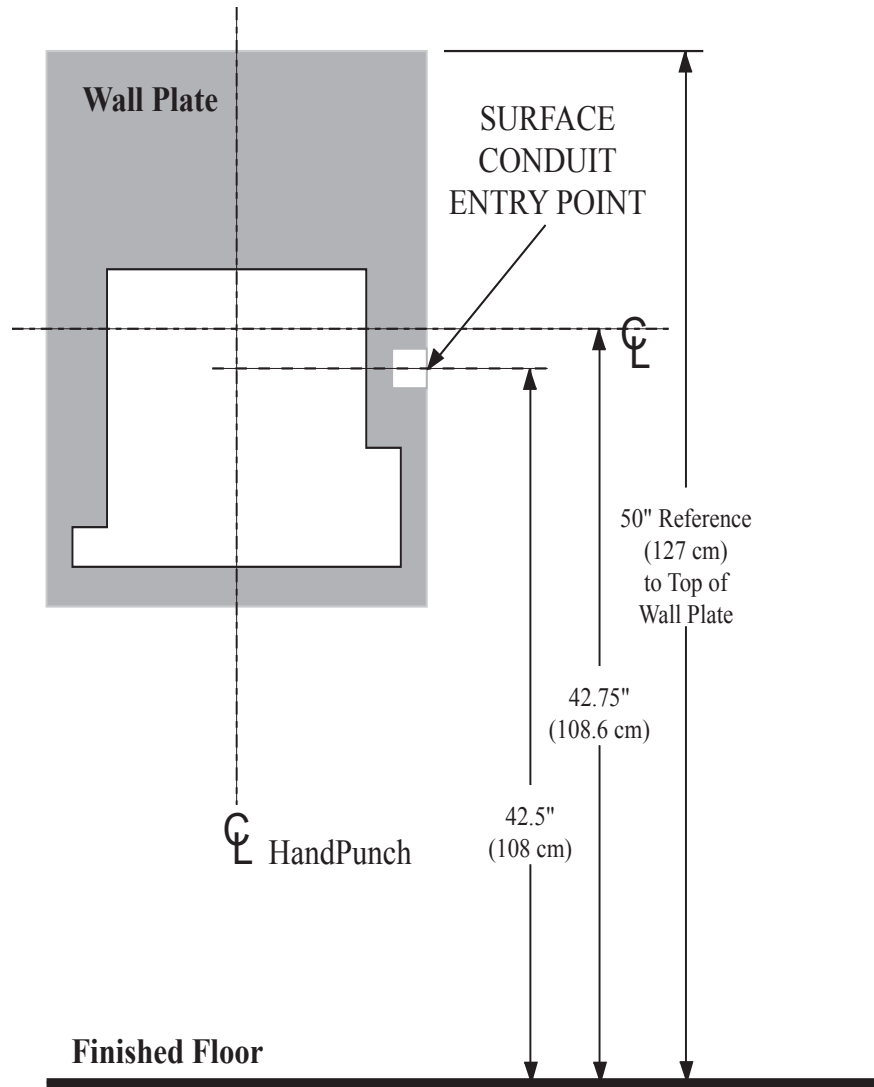

Figure 3-2: HandPunch Wire Routing Layout
Before you begin installation, check the site blueprints, riser diagrams, and specifications for important information about HandPunch location and for other systems that connect to the HandPunch. Look for any existing wall preparations and wiring that other contractors may have installed for the HandPunch. A wire routing layout diagram (see Figure 3-2 on page 15) is provided to assist in planning wire routing.
To make the modem connection, a telephone jack must be installed on or in the wall behind the modem HandPunch terminal. Position the RJ-11 jack location using the template provided in this manual (see Figure 3-2 on page 15). The short black cable provided with the modem HandPunch connects the terminal to the telephone jack. Figure 4-4 on page 19 a wiring diagram for a modem to host computer connection.
1. Refer to Figure 3-2 on page 15 for a template diagram to assist in routing wiring.